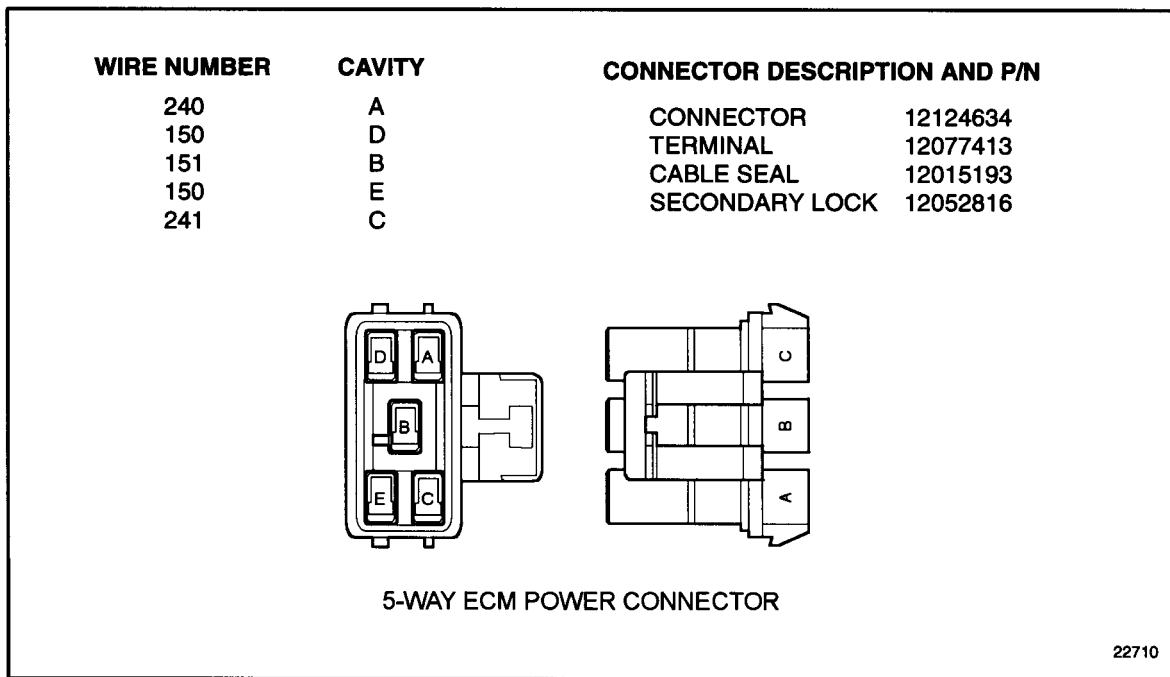

Figure 10-6 5-Way ECM Power Harness Connector
5. Check 5-amp ignition fuse or circuit breaker again. For 5-way ECM power harness schematic, see Figure 10-6.